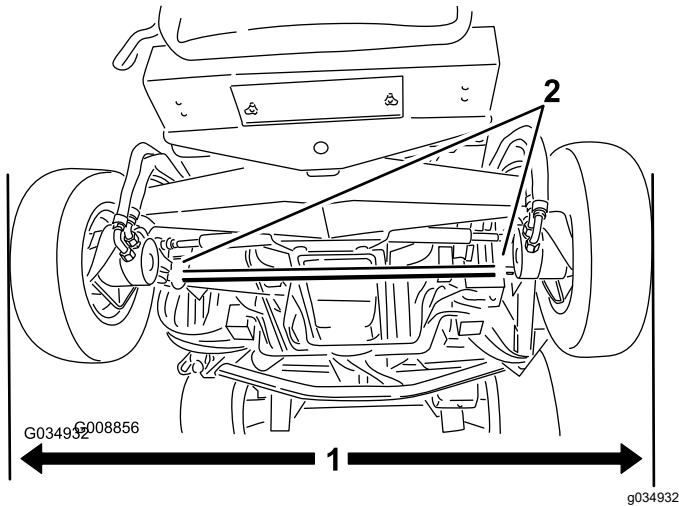

Figure 115
1. With the rear tires in a straight position, measure the outside distance (at axle height) at the front and rear of the rear tires (Figure 115).
2. To adjust the toe-in, loosen the clamps at both ends of the tie rods (Figure 115).